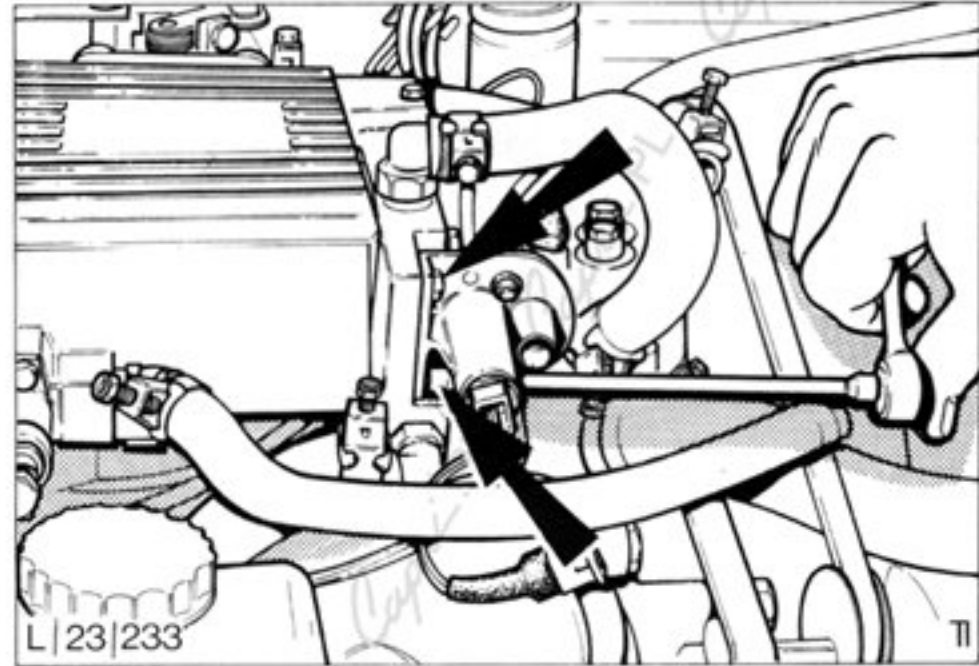

Fig.89. Auxiliary air device securing bolts.
- Remove two bolts securing air device to engine, Fig.89.